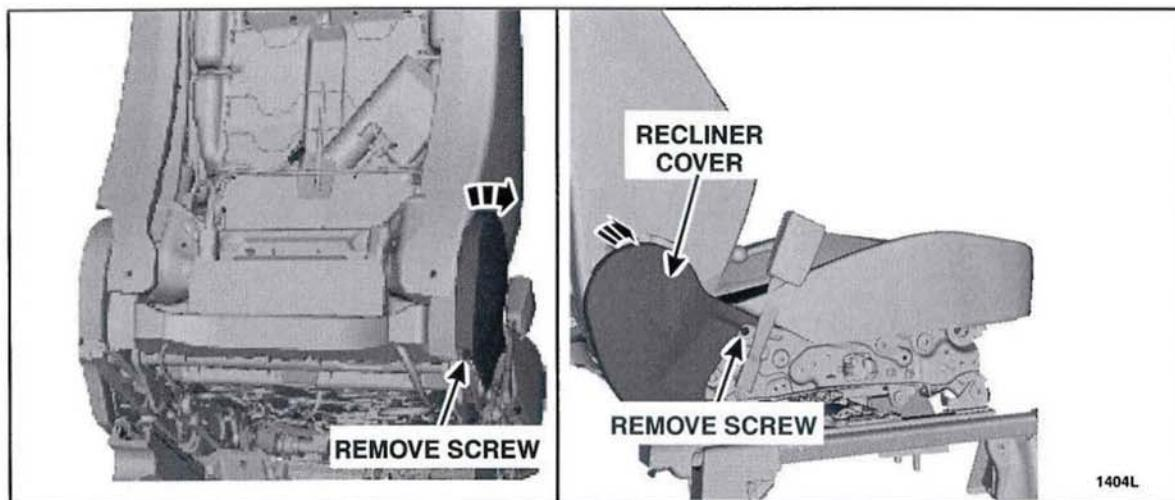

FIGURE 12
13. Remove the recliner cover. See Figure 12.